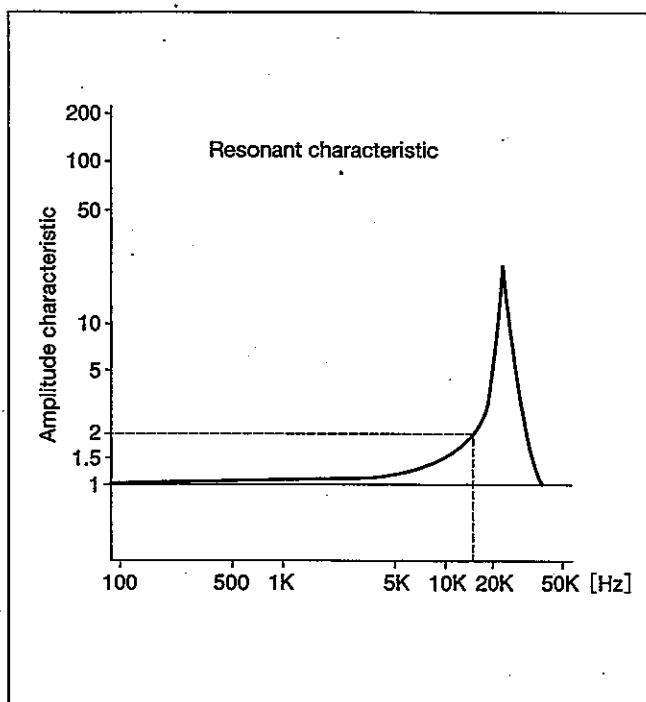

Fig. 4-1
- Before measuring, the user should therefore estimate frequency components of vibration to be inputted, find the acceleration level from the amplitude ratio by referring to Fig. 4-1 below, and thus make sure that the level is below the transducer's safe overload rating.
Example: Suppose that the maximum vibration value of a measuring object is 300G, 17kHz. In Fig. 4-1 the amplification ratio of the acceleration transducer is found to be approximately 2 against a frequency of 17kHz. An estimate of the maximum acceleration level is 300G. The transducer will then be subjected to 600G ($300\text{G} \times 2$) by resonance. This however remains below the safe overload rating so that the transducer can be used safely.